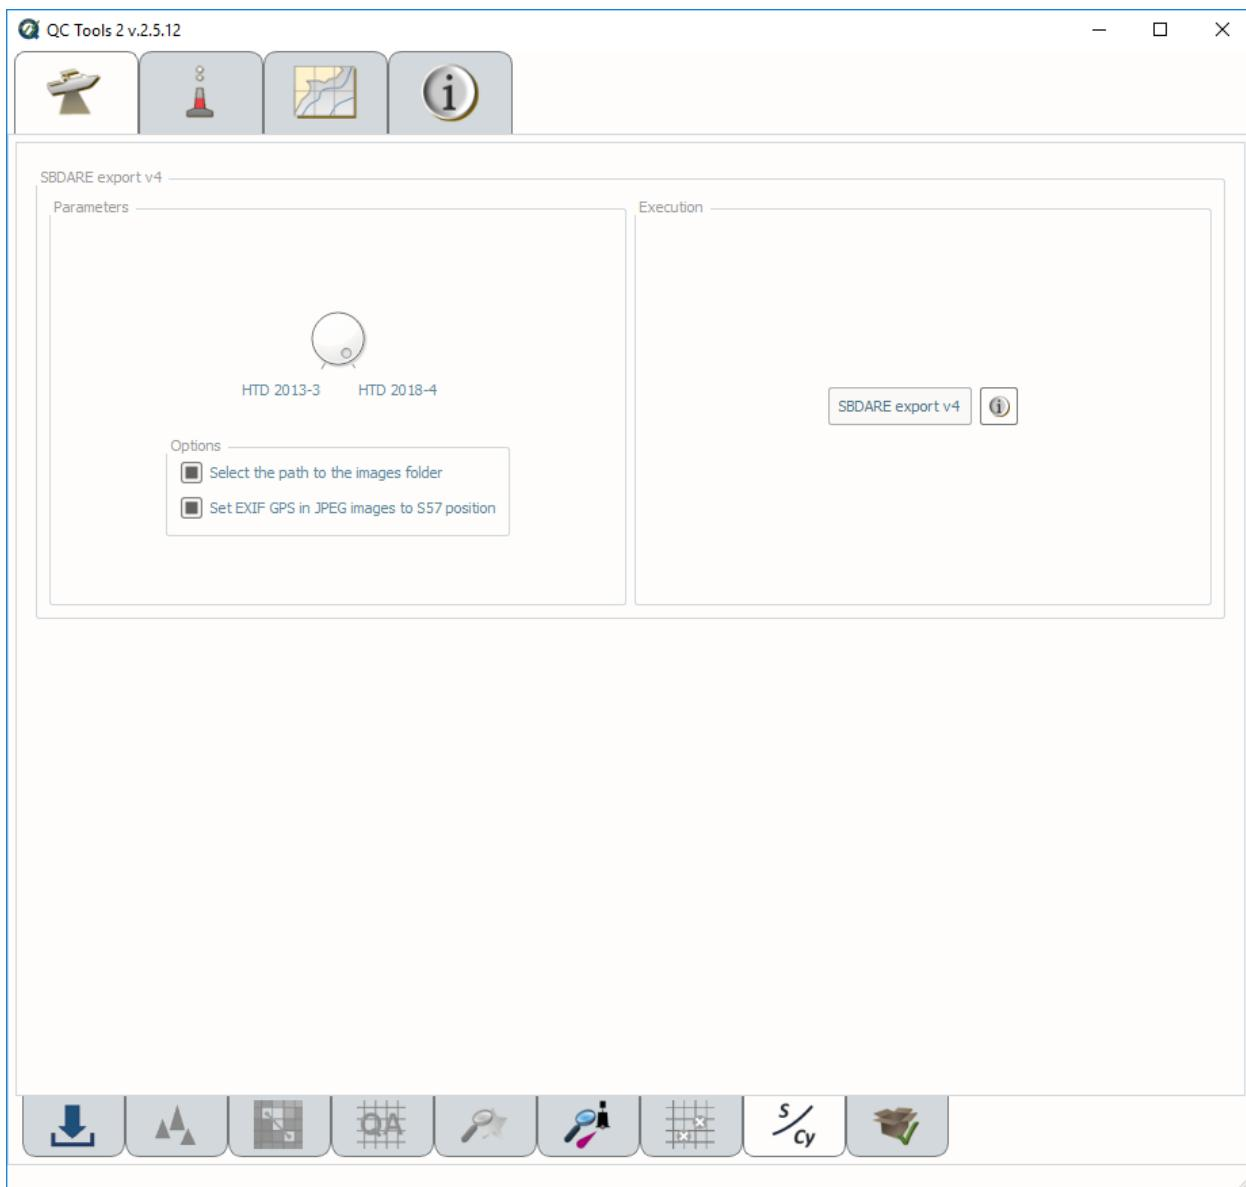

Fig. 2.52: SBDARE exports interface.
- Click **SBDARE export v4** (Fig. 2.52).